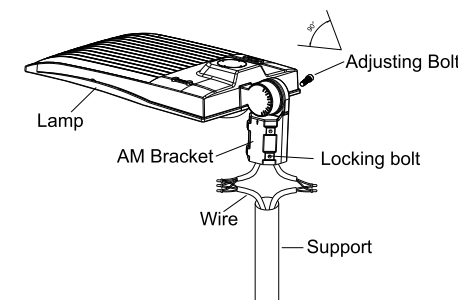

Figure 10
Step 1: Loosen the four bolts on AM bracket, connect the wires correctly, and pull the wires into the poles. (Figure 10)
Notice: Adjustable angle is 0-90° (Figure 10)